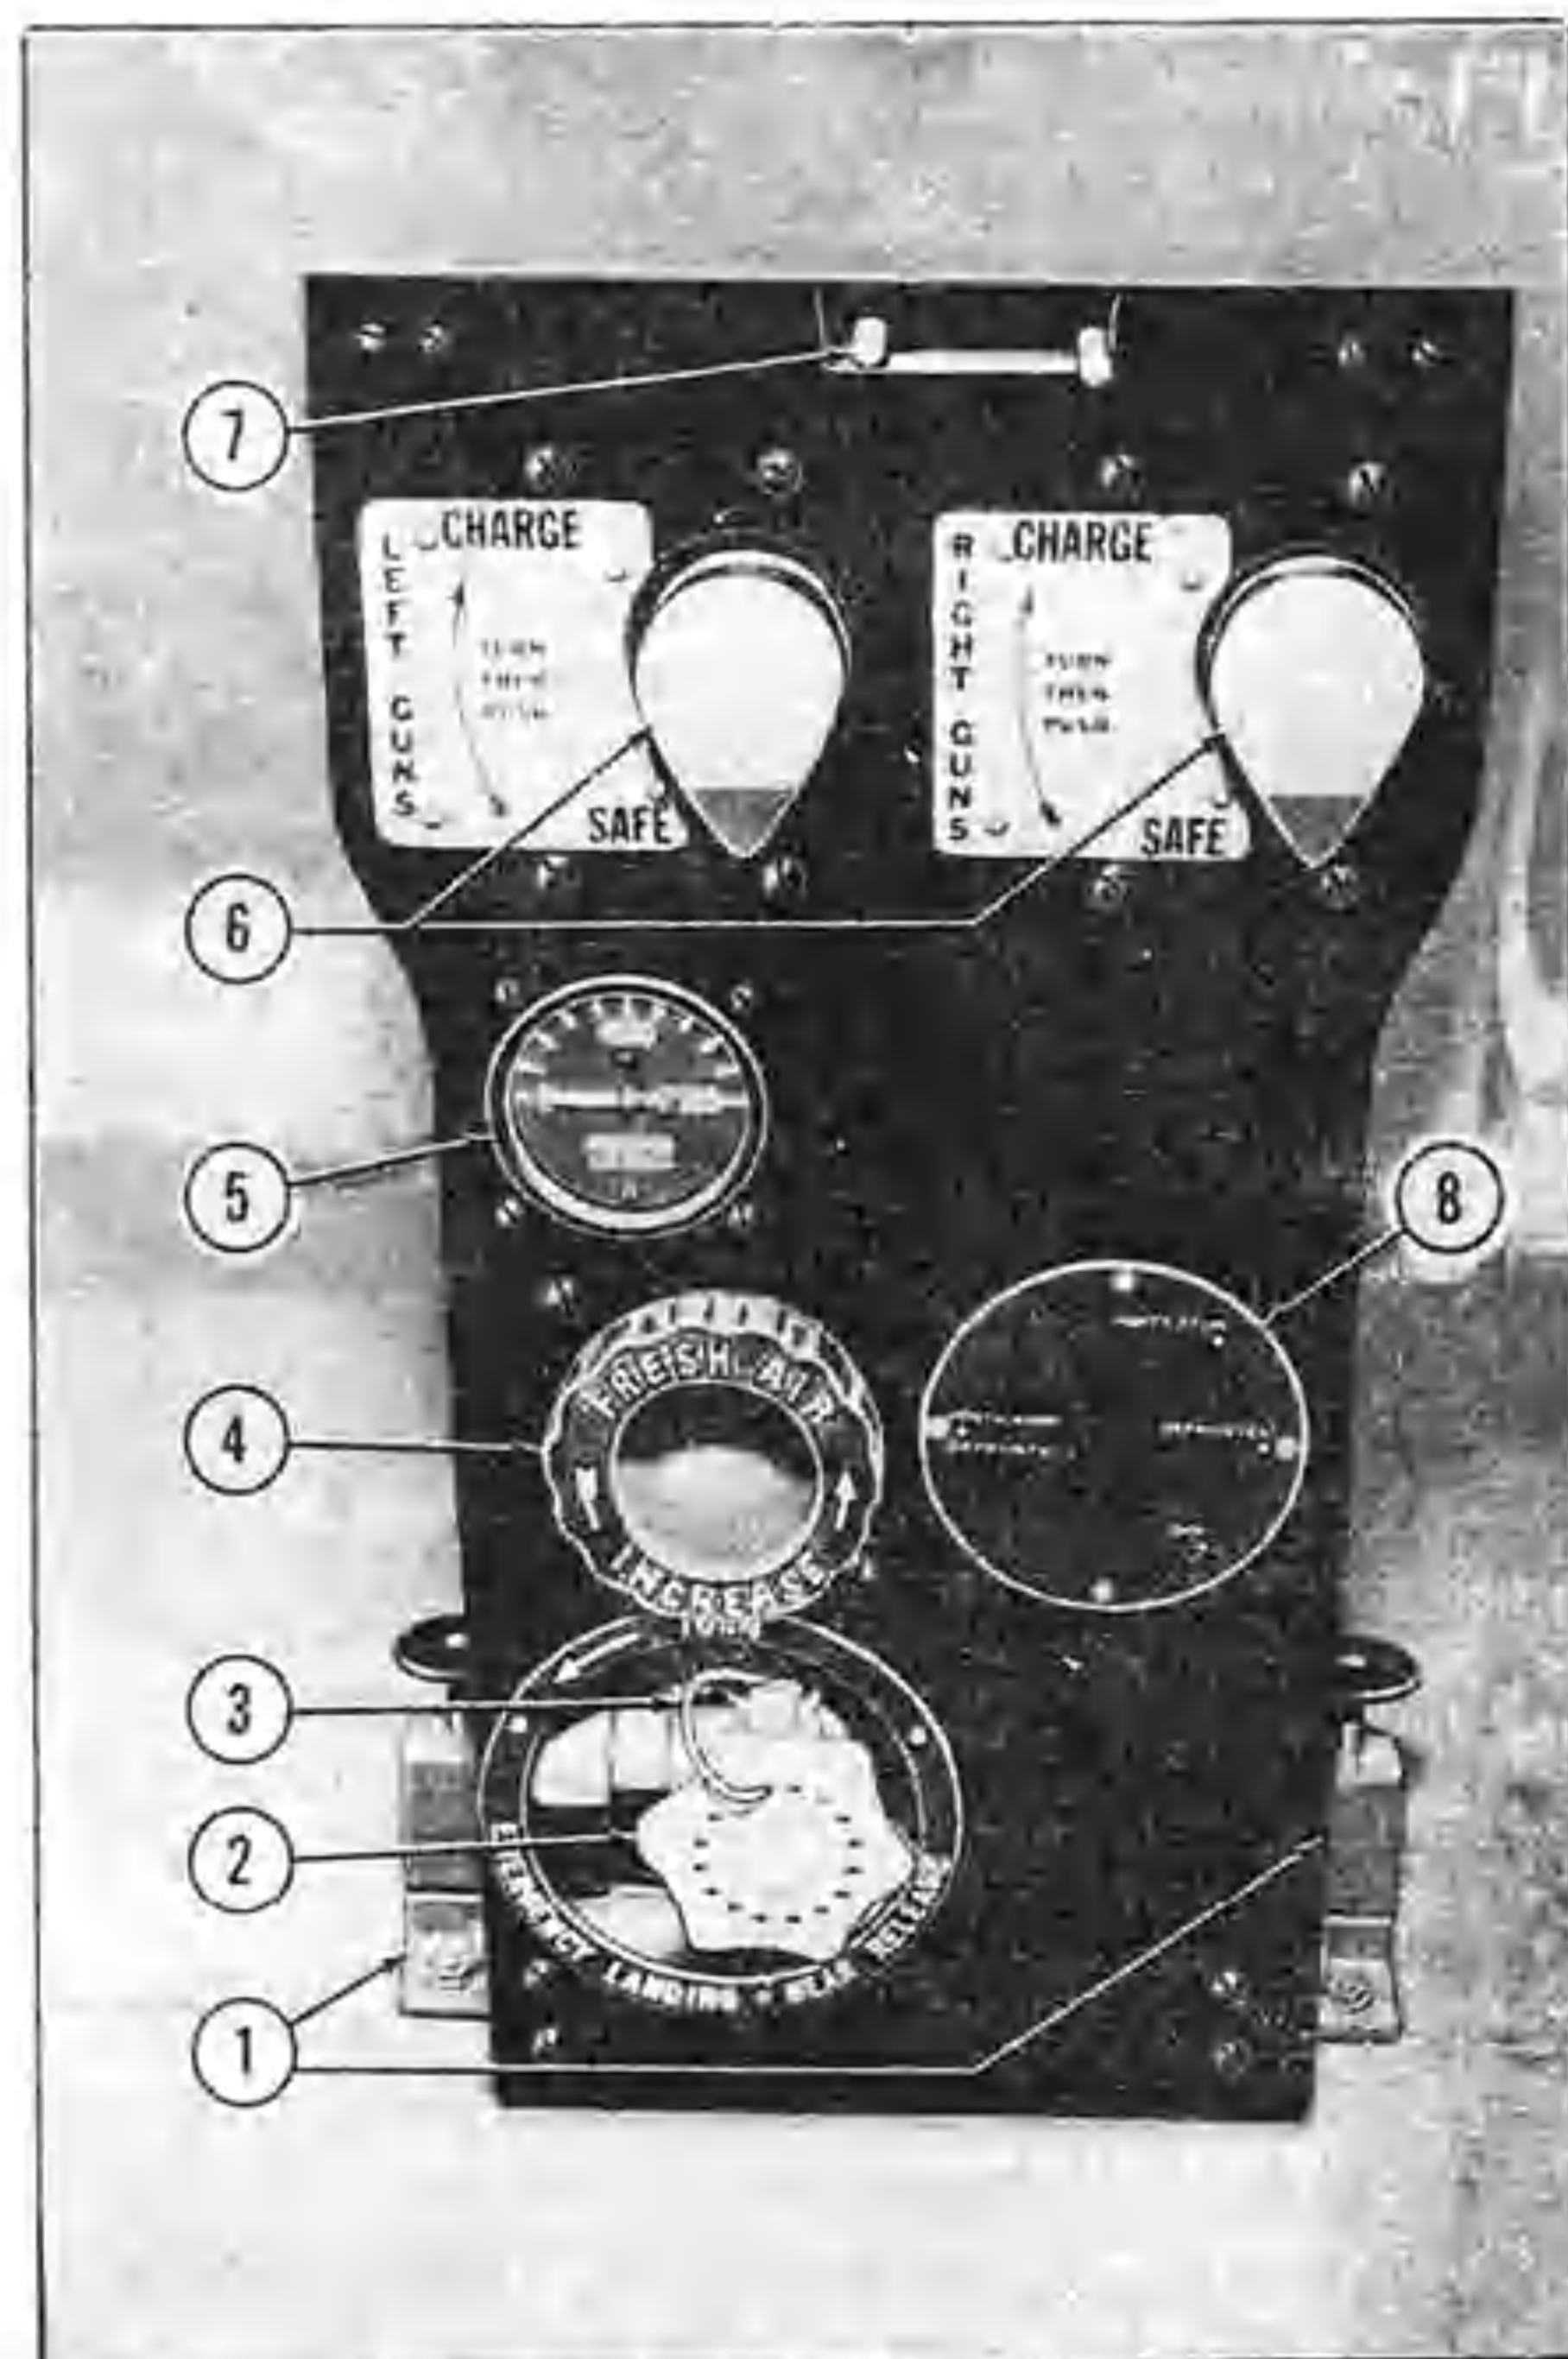

Figure 16 — Auxiliary Instrument Panel
(4) **EMERGENCY CO₂ CONTROL.** — A valve on the lower auxiliary panel (between the rudder pedals) controls the carbon dioxide system. Turning this valve counter-clockwise releases the compressed gas from the emergency bottle, delivering it directly into the landing gear struts. (See 2, figure 16.)